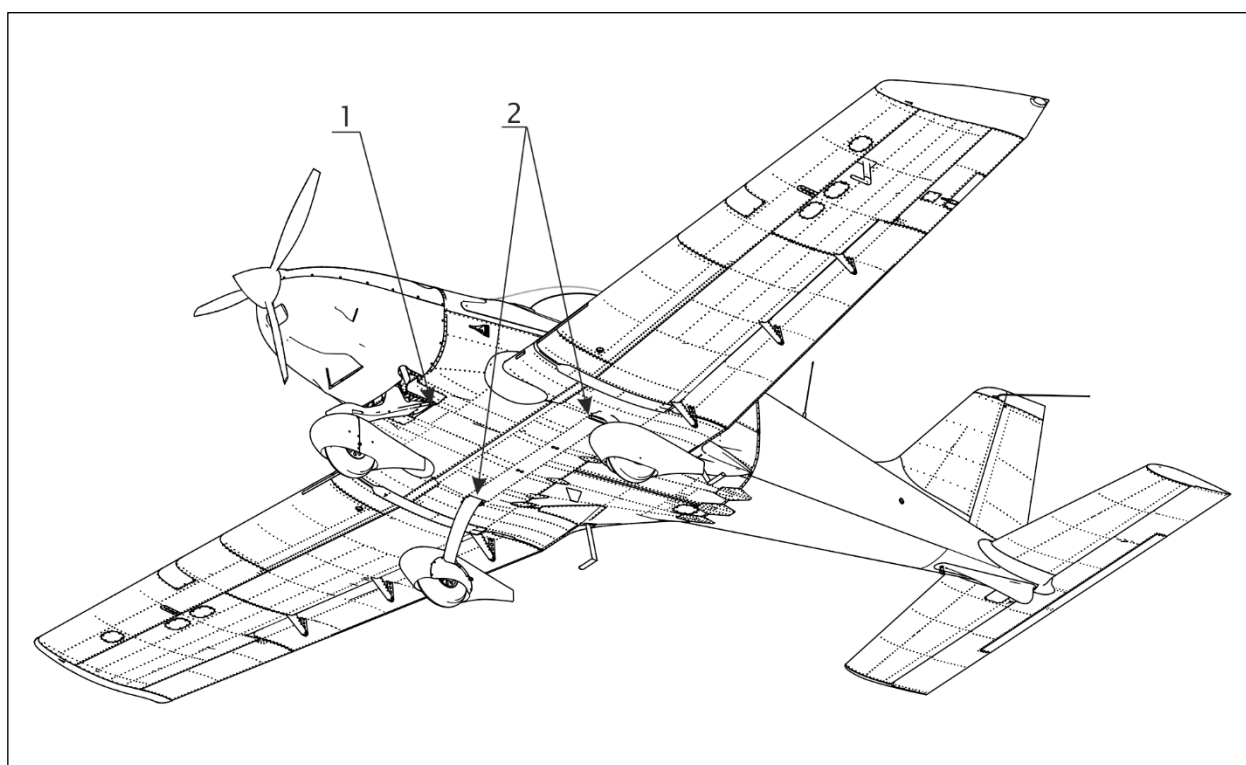

Figure 1 Airplane Jacking Points
There are three jacking points (see Fig. 1), two of them are under upper ends of main landing gear legs (2) and the third one is under the nose wheel leg (1).
For shoring the jacking points are used. Refer to Figure 1.